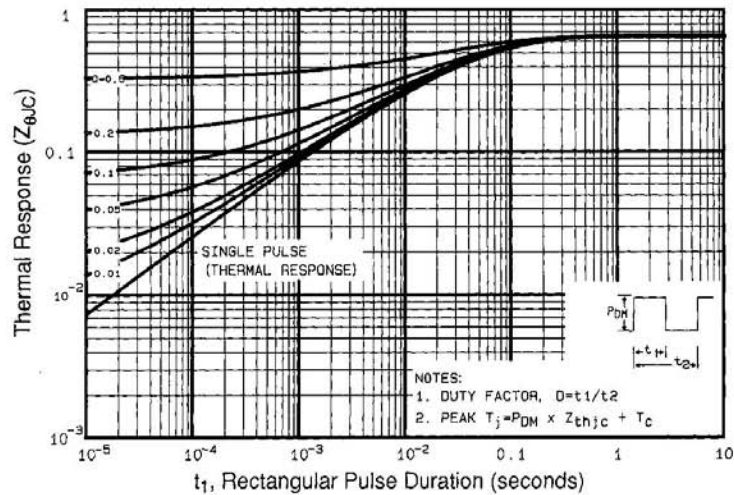

Fig 11. Maximum Effective Transient Thermal Impedance, Junction-to-Case
① Repetitive rating; pulse width limited by max. junction temperature (See Figure 11)
③ $I_{SD} \leq 7.8A$, $di/dt \leq 140A/\mu s$, $V_{DD} \leq 600$, $T_J \leq 150^\circ\text{C}$